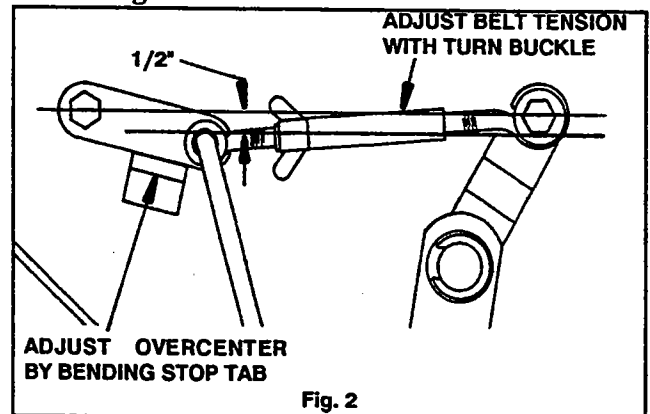
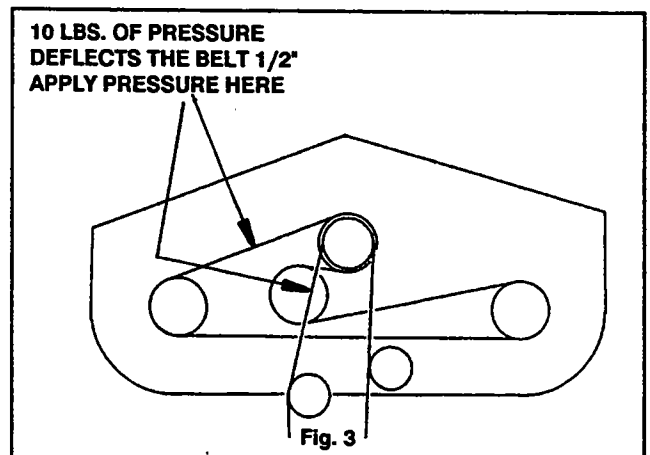

Fig. 2
Fig. 3
11. Push the mower engagement lever forward until the over center mechanism snaps into place. Check the over center spacing as shown in figure 2. Adjust belt tension as shown in figure 3 after over-center spacing is set.
Engage the blade clutch lever and check for proper over-centering. There should be about 1/4" between rod and straight edge (see fig. 2). Bend the stop tab to adjust the clearance.
Belt tension should not be adjusted until over-center spacing is checked. Adjust the belt tension so that the belt moves 1/2" with 10 pounds of pressure (See fig. 3). Adjustment is made by loosening the wing nut and tightening or loosening the turnbuckle.